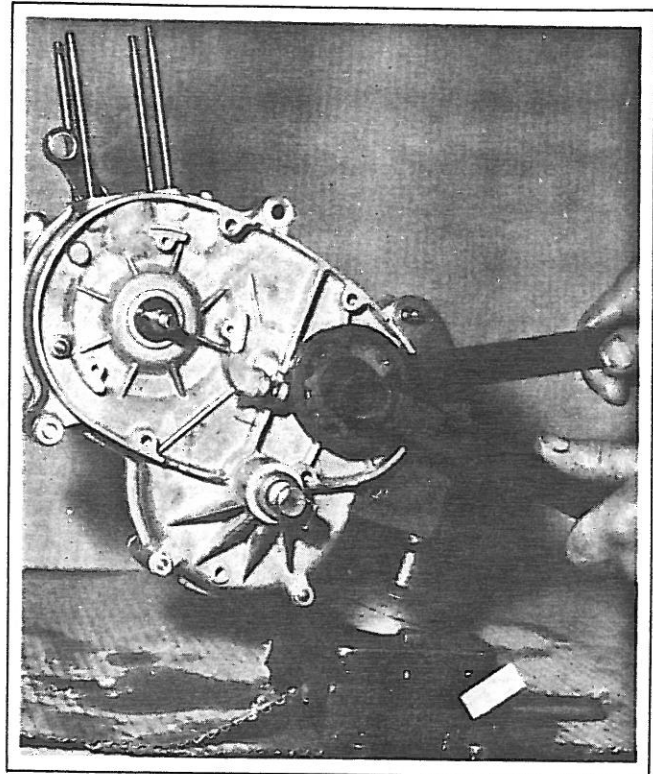

Figure 14.
2. After carrying out steps A through D, use tool L to hold drive sprocket while removing sprocket nut with tool M (Figure 14).